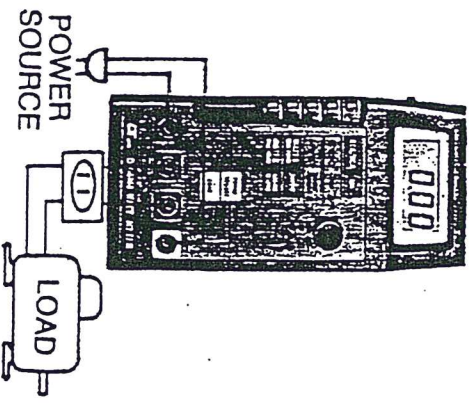

Fig 2
- (1) Slide power switch to "ON" position.
- (2) Adjust the "WATT Zero Adjust Knob" until the display show "0".
- (3) Determine the highest anticipated WATT (2000W, 6000W) on the function scale and press the corresponding pushbutton.
- (4) Make the wire connection and connect the test leads into terminal as the fig. 2
- (1) Engage the FUNCTION pushbutton "WATT 11 6000W" on function scale.
- (2) Adjust the "WATT ZERO ADJUST KNOB" until the display show "0".
- (3) Connect a standard power source and add a load, as Fig. 2 whose value is near full scale (600V, 10A) and is known to within $\pm 0.5\%$ accuracy
- (4) Calibration adjustment VR 2 is at the right top bottom of the main P.C Board.
- (5) Adjust calibration VR 2 for a display equal to the known above WATT.
- (6) Remove the standard power source and and load.